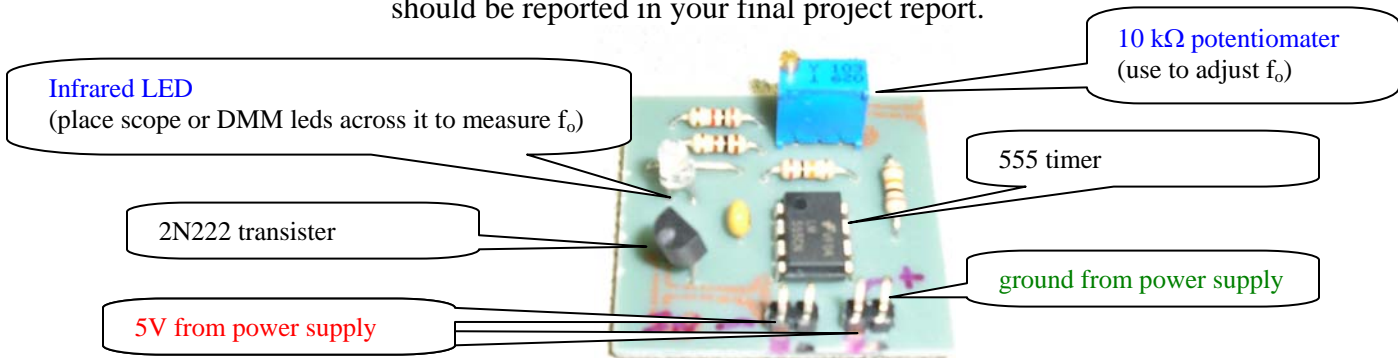

Figure 3: Infrared Transmitter Connection
- a. Connect the (“+”) and (“IN”) terminals on the transmitter to 5V on the power supply. Connect the ground (◆) terminal to the ground on the power supply. Connect an oscilloscope or Digital Multimeter across the infrared LED on the transmitter (see Figure 3).